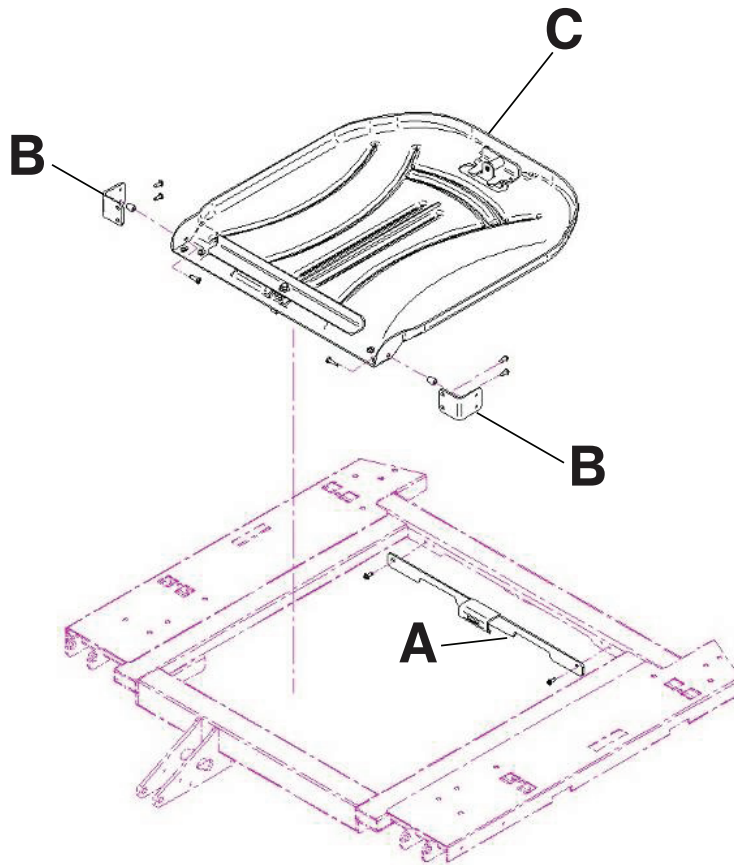

Figure 137: X-ray cassette holder
3. Turn the battery switch to the OFF (O) position.
5. Using a #2 Phillips screwdriver, install two screws to secure the fastener (A) to the top of the fowler frame (Figure 137 on page 120).
6. Using a #2 Phillips screwdriver, install four screws to secure the two cassette holder pivot brackets (B) into the lower fowler section (Figure 137 on page 120).
7. Using a #2 Phillips screwdriver, install two screws and two spacers to secure the X-ray cassette holder (C) into the cassette holder pivot brackets (B) (Figure 137 on page 120).